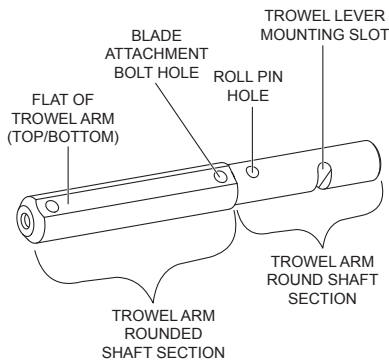

**Figure 34. Bronze Bushings**
4. Examine the bronze trowel arm bushing insert (Figure 34), and clean if necessary. Replace bushing if out-of-round or worn.